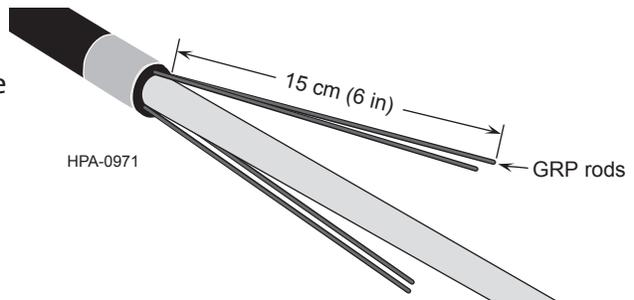

Figure 7
Step 8: At the ring cut, carefully flex the sections of sheath and remove them. Side cutters may be helpful in removal (Figure 7).